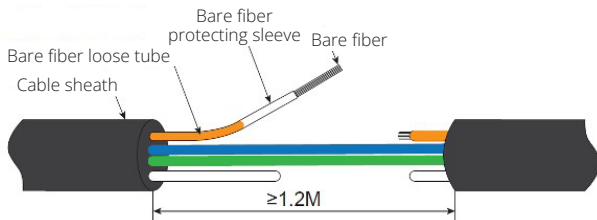

Figure 1-4: Strip the uncut cable
- 3 Strip the sheath of the uncut cable for a suitable length ≥ 4 ft. (1.2 m) (Figure 1-4).